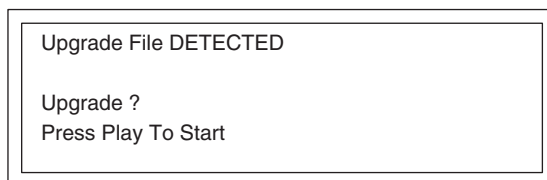

Fig. 4
4. "Upgrade?" is displayed on the TV monitor screen. (Fig. 4)